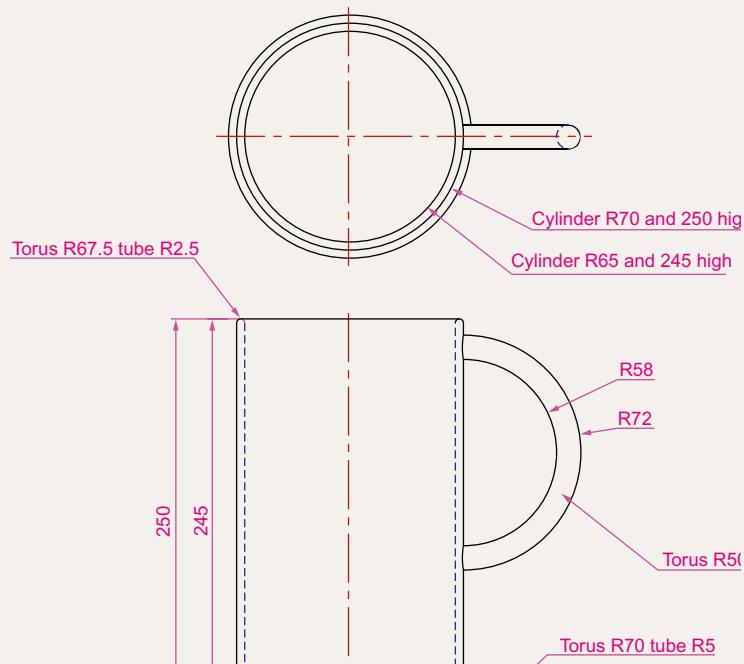

Fig. 14.40 Exercise 4
4. Construct a solid of revolution of the jug shown in the orthographic projection (Fig. 14.40). Construct a handle from an extrusion of a circle along a semicircular path. Union the two parts. Place the 3D model in a suitable isometric view and render.